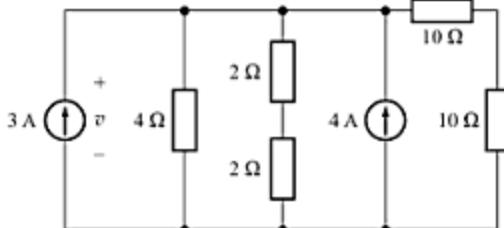

Fig. A-60
- A-12. Find the voltage  $v$  in the circuit given in Fig. A-60.